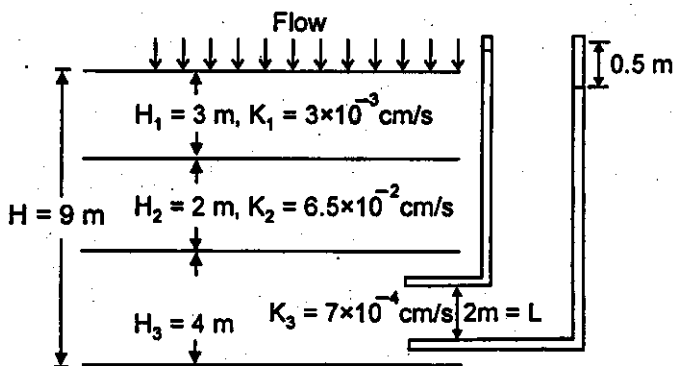

Fig. 5
7. (a) Determine the following from a three-layered soil shown in Fig. 5. : 7+7+6 = 20